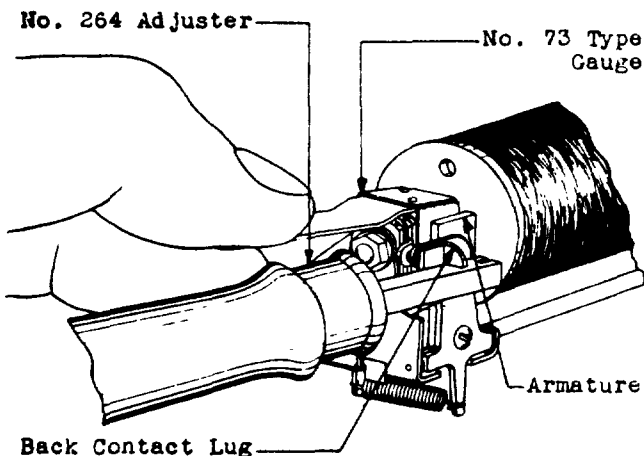

Fig. 5 - Adjusting Unoperated Armature Air-gap
- (1) Unoperated Armature Air-Gap: To change the unoperated armature air-gap, insert the proper gauge between the armature and pole face and adjust the back contact lug to the right or left as required with the No. 264 adjuster as shown in Fig. 5. Do not adjust the armature contact lug. Twisting the adjuster to the left decreases the gap and twisting it to the right increases the gap. In using the gauges, insert the "enter" gauge, corresponding to the minimum limit of the gap specified for the relay being adjusted, and adjust the lug so that the gauge can be inserted and withdrawn with very little friction. This will insure that the minimum limit is met and the maximum can be checked with the "not enter" or thicker blade of the gauge. The "not enter" end of the No. 73B gauge may enter with little friction on relays requiring this gauge.
- (2) Contact Separation: To change the contact separation adjust the front contact lug to the right or left as required. Do not adjust the armature contact lug. Adjust the lug to the left to increase the separation and to the right to decrease the separation. Use the No. 485A pliers to adjust the front contact lug to the left. Apply them over